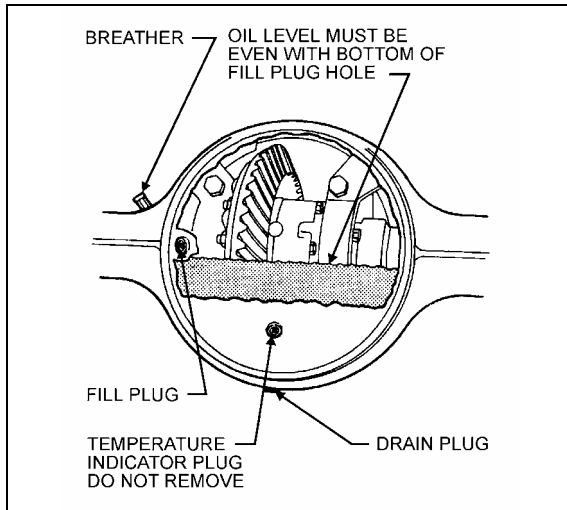

FIGURE 4: DIFFERENTIAL HOUSING BOWL
Check oil level and add (if necessary) every 25,000 miles (40 000 km) or according to the fleet maintenance interval, whichever comes first (Fig. 4).
3. Clean the area around the fill plug. Remove the fill plug from the differential axle housing bowl (Fig. 4).